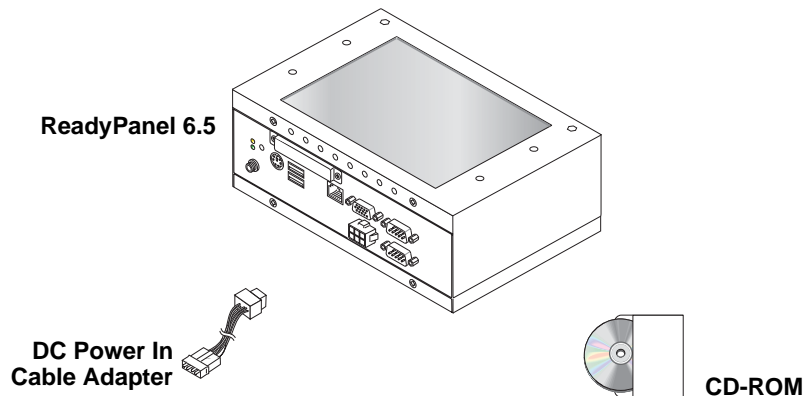

Figure 1-1. ReadyPanel and Accessories
The Contents List identifies the items in the shipping container for the ReadyPanel QuickStart Kit. The first of multiple boxes may contain all of the accessories on the Contents List. See Figure 1-1.
1) Open shipping box.	<ul style="list-style-type: none"> • Locate the ReadyPanel Contents List. See Figure 1-1. • Unpack the contents of the shipping box.